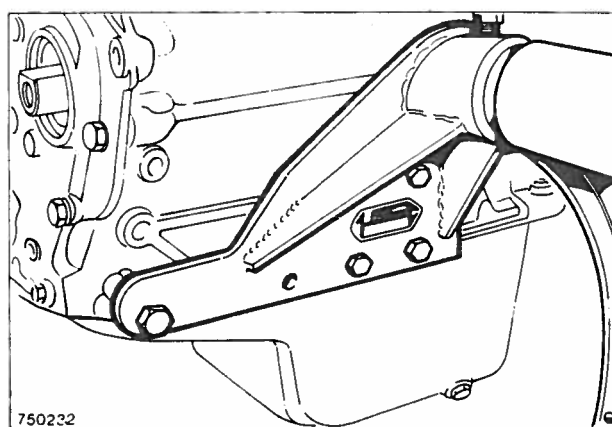

Fig. 5 Engine mounting bracket
1. Steam clean the engine and mount it on the engine stand using the special mounting bracket 21-015 – see Fig. 5.